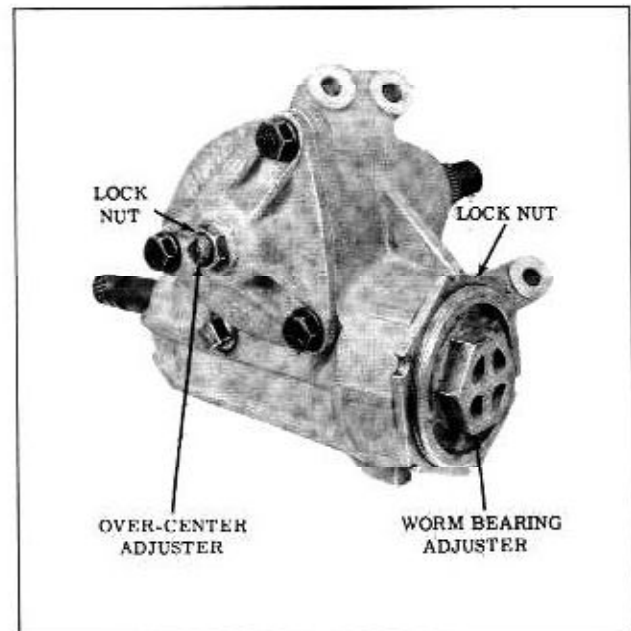

Fig. 4-27 Manual Steering Gear
are correct. There are two adjustments on the manual steering gear; worm bearing pre-load and over-center. (Fig. 4-27)
4. Loosen the worm bearing adjuster lock nut with a brass drift. Turn the worm bearing adjuster nut in to tighten, or out to loosen to bring the pre-load into specifications. (Fig. 4-27)
1. Remove pitman arm with puller J-5504. Loosen lock nut on end of pitman shaft and turn the over center adjuster a few turns counterclockwise (Fig. 4-27). This will remove the load from the worm bearings caused by the close meshing of the rack and sector teeth.
2. Loosen the lock nut on the worm bearing adjuster (Fig. 4-27) and turn the adjuster counterclockwise a few turns.